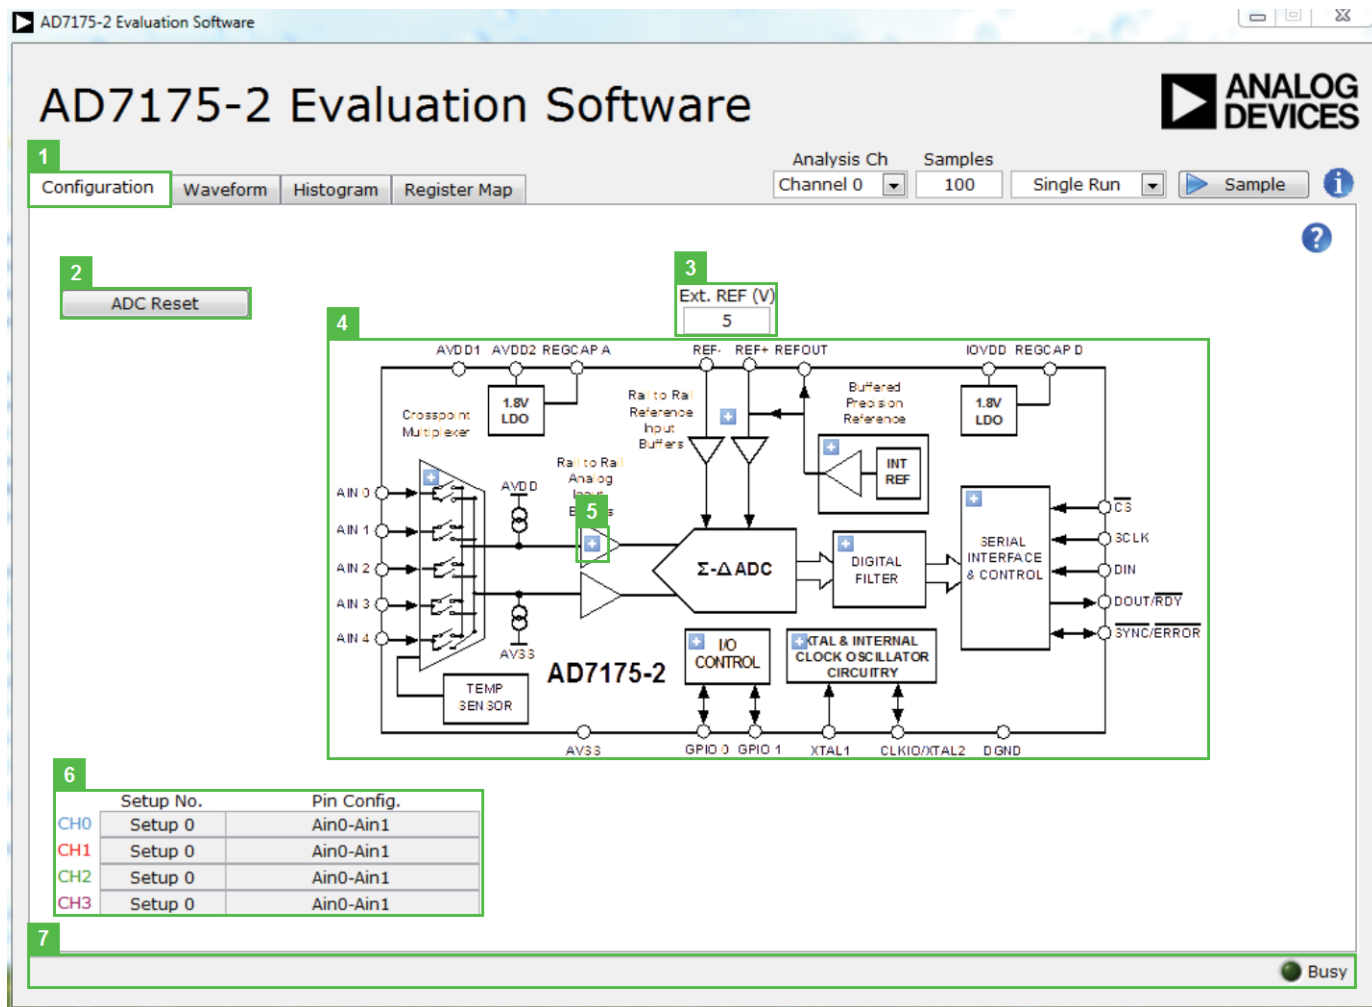

Figure 7. Configuration Tab of the AD7175-2 Evaluation Board Software
1. From the **Start** menu, click **Programs, Analog Devices,** then **EVAL-AD7175-2SDZ**. The main window of the software then displays (see Figure 7).
The main window of the software displays the significant control buttons and analysis indicators of the AD7175-2 evaluation board software (see Figure 7). This window is divided into four tabs.
To exit the software, click the close button at the top, right corner of the main window (see Figure 7).